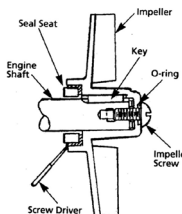

Figure 1 - Mechanical Seal Replacement
Refer to Figures 1, 2, and 3.
3. Pry seal seat from impeller recess with a screwdriver (See Figure 1).